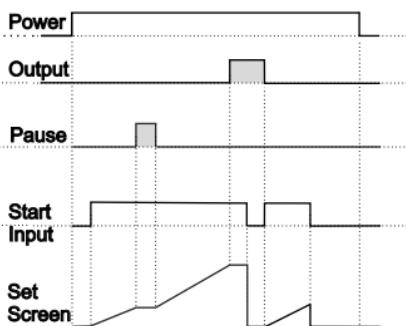

Figure 3.4
3.2.2 If Upcount `dEct` =0 and `butF` is `OFF` the control diagram is shown in Figure 3.4